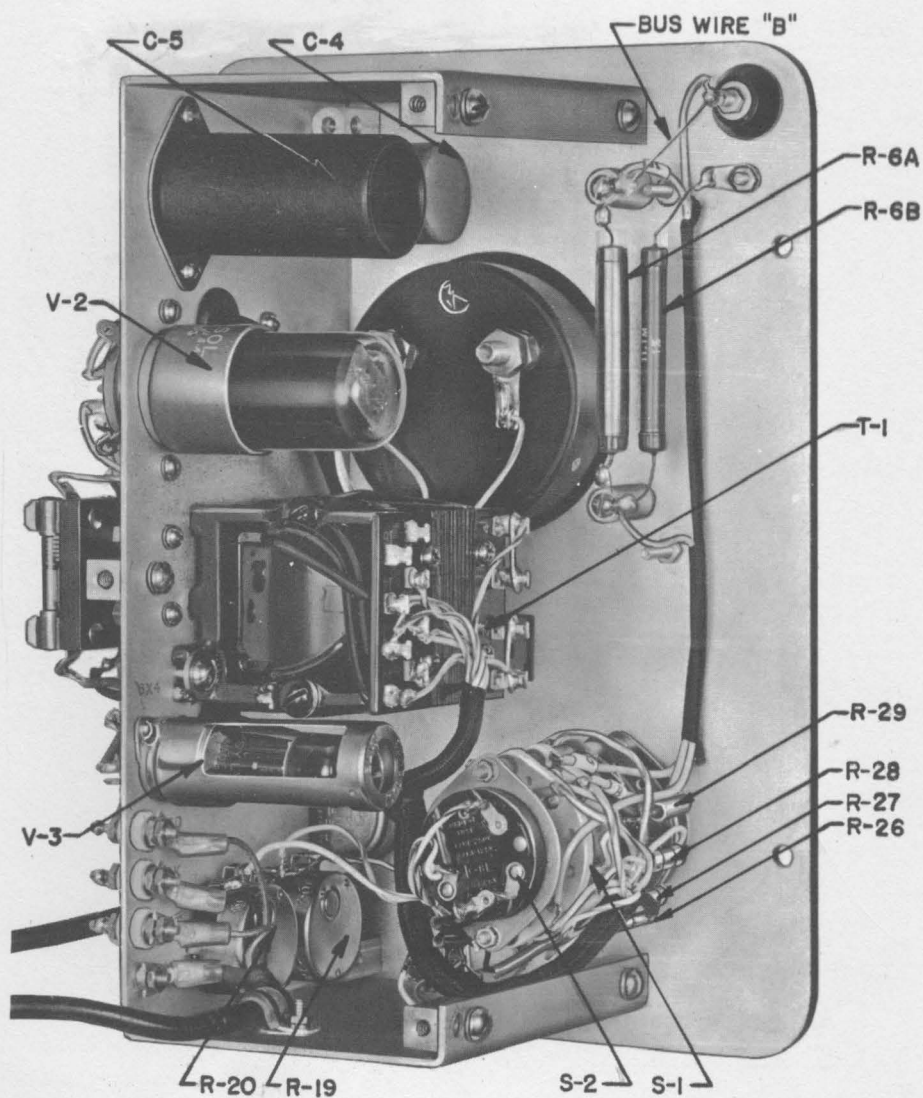

Figure 6. Rear Interior View
2.3.4 INPUT RESISTANCE. The input resistance at the d-c terminals is normally 111 megohms. When it is essential to have an input resistance higher than 111 megohms, the input can be applied directly through the ripple filter to the grid of the d-c amplifier tube for the first four ranges (1.5, 5, 15, and 50 volts full-scale). To do this, unsolder the bus wire (B, Figure 6) from the high input terminal. The regular input terminals are still used, but the effective input resistance is determined only by the insulation resistance of the input circuit. With this connection, the entire grid current of the amplifier tube (about 1.5×10^{-9} amperes) flows through the voltage source. For the 150- and 500-volt ranges, the input resistance remains at 111 megohms.